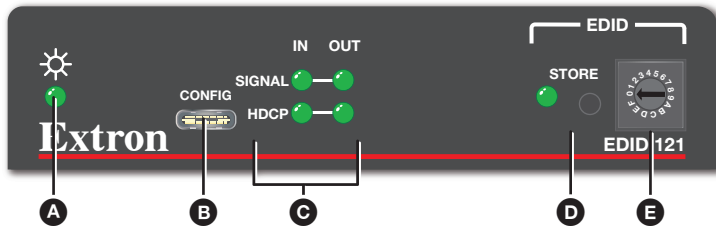

Figure 4. Front Panel Features
4. Connect a control PC to the front panel USB port (see figure 4 on page 8) to configure the EDID 121. The following methods are available for configuration and control: